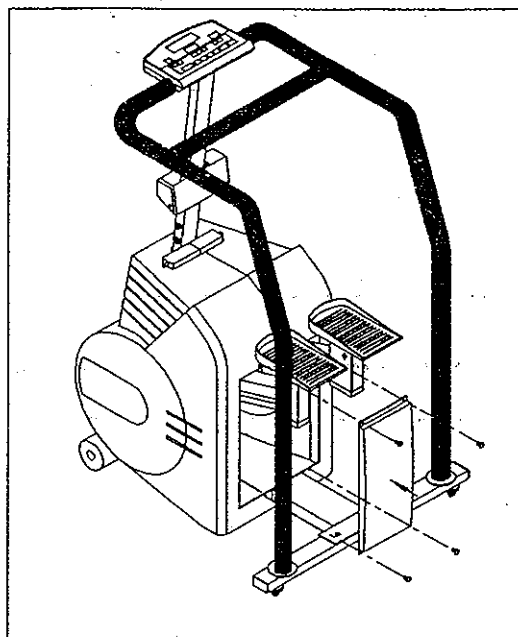

Fig. 23
9. Secure the front cover with screws (see Fig. 23).